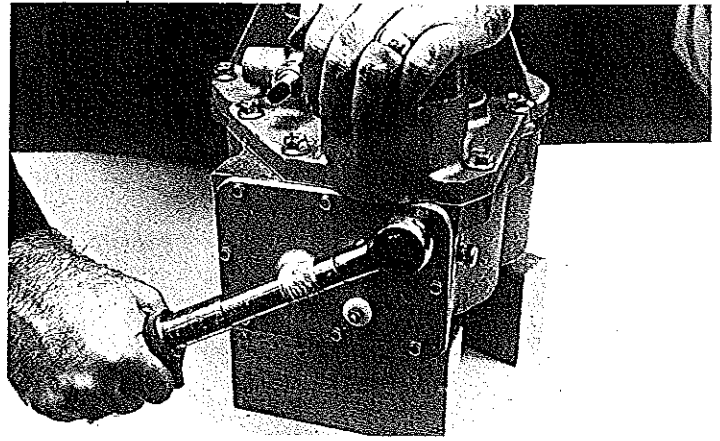

FIGURE 1
Remove (8) #10-24 x $\frac{3}{4}$ " screws which are torqued at 7 ft. lbs. (Figure 1) holding the electric cover in place.